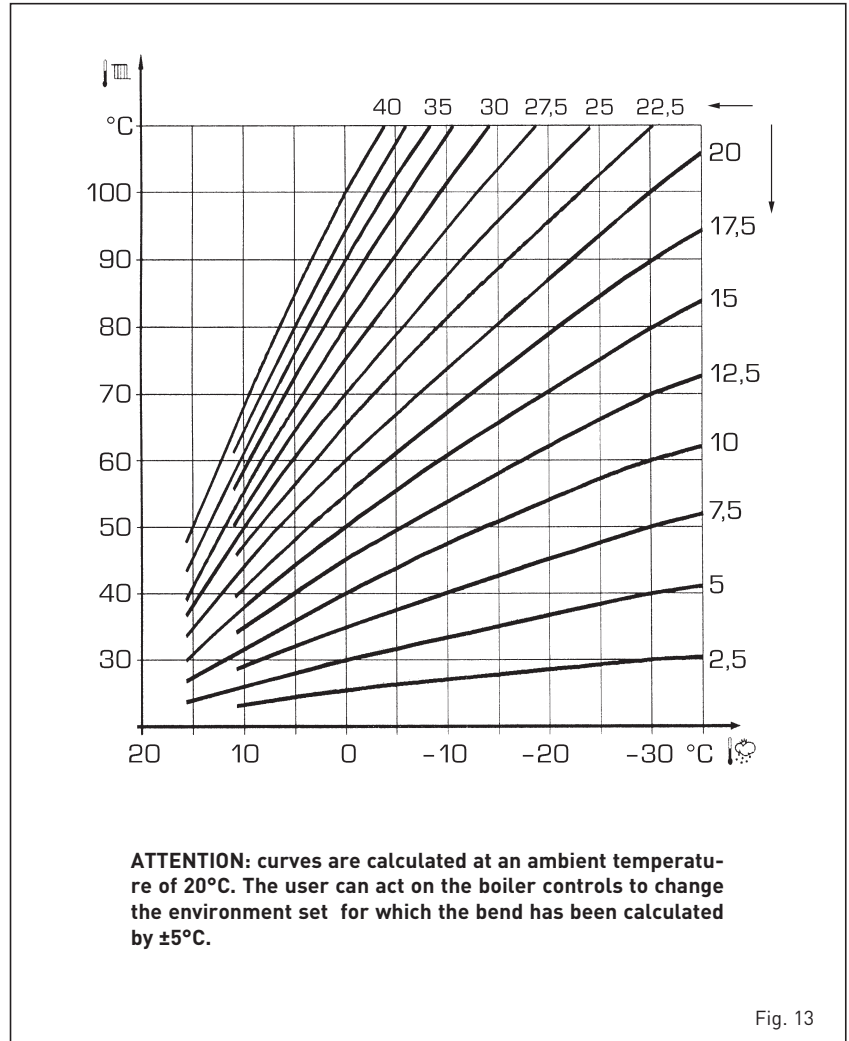

Fig. 13
3.4 EXTERNAL SENSOR (fig. 13)
If there is an external sensor, the heating settings SET can be taken from the climatic curves according to the external temperature and, in any case, limited to with the range values described in point 3.3 (parameters PAR22 for zone 1, PAR 25 for zone 2 and PAR28 for zone 3). The climatic curve to be set can be selected from a value of 3 and 40 (at step 1). Increasing the steepness of the curves of fig. 13 will increase the output temperature as the external temperature decreases.